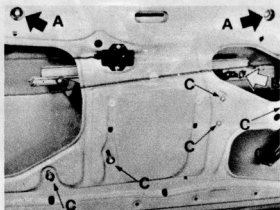

Fig. 12.8. Window regulator securing bolts (Coupe models). (Sec. 12)
- 3 Refer to Fig. 12.8, and remove the six bolts securing the regulator assembly and lower balance arm support channel to door inner panel.